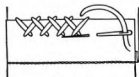

FIGURE 81
*Flannel Seam* (Figure 81). — Place the two right sides of the material together and stitch  $\frac{1}{2}$  inch from the edge. Press the seam in the desired direction and cut the under edge to within  $\frac{1}{8}$  inch of the stitching. Trim the upper edge so that it is even and stitch it down with the catch stitch. (Figure 30.)